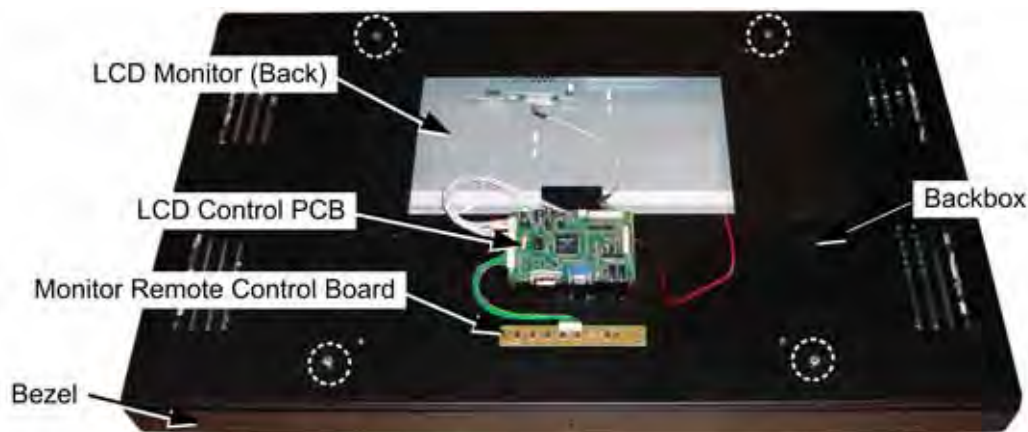

Figure 24. Monitor and Backbox Components
- Refer to Figure 24 for monitor assembly components. **Carefully** disconnect the three wire harnesses that connect the LCD panel to the LCD Control PCB on the back of the assembly.
- Remove the seven (7) screws that secure the bezel in place around the front of the monitor.
- Remove the four (4) bolts from the back of the backbox (shown by the circles in Figure 24) and lift off the backbox with the attached LCD Control PCB.
3. Refer to Figure 24 to identify monitor assembly components. **Carefully** disconnect all of the cables and wire harnesses from the Control PCB. (Depending on the PCB model, you may need to remove the PCB from the backbox before you can disconnect the power harness.)
4. Remove the four (4) screws that secure the PCB to the monitor backbox and remove the PCB.